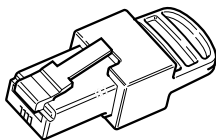

Figure 2-2 Xanbus Network Terminators
- Network terminators (Figure 2-2)—the Xanbus network must be properly terminated at each end with network terminators. If the network is not properly terminated, signal quality is degraded and performance on the network is reduced. Permanent configuration without terminators is not supported by Schneider Electric. One terminator is included with the SCP. Depending on your network layout, this terminator may need to be inserted into another device elsewhere in the network.